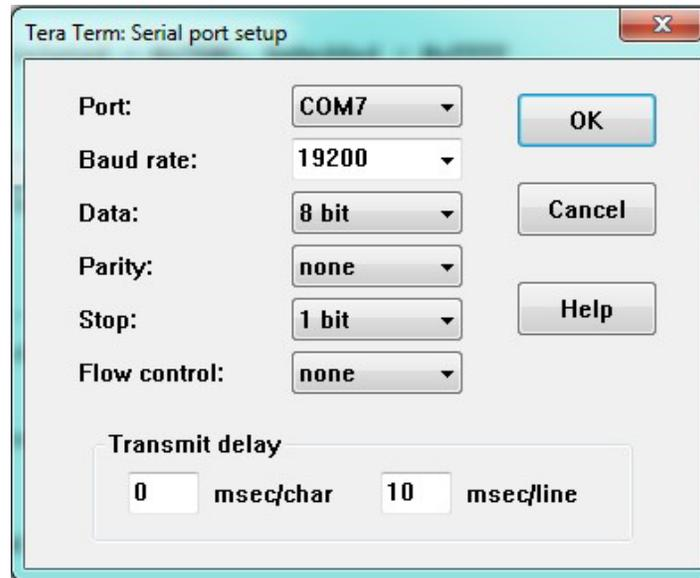

Figure 3: Serial Port Settings
5. Once the hex file has been created, open **Tera Term**. From the Setup dialog box, select the correct **Port...** and set the port to the following settings (Figure 3).